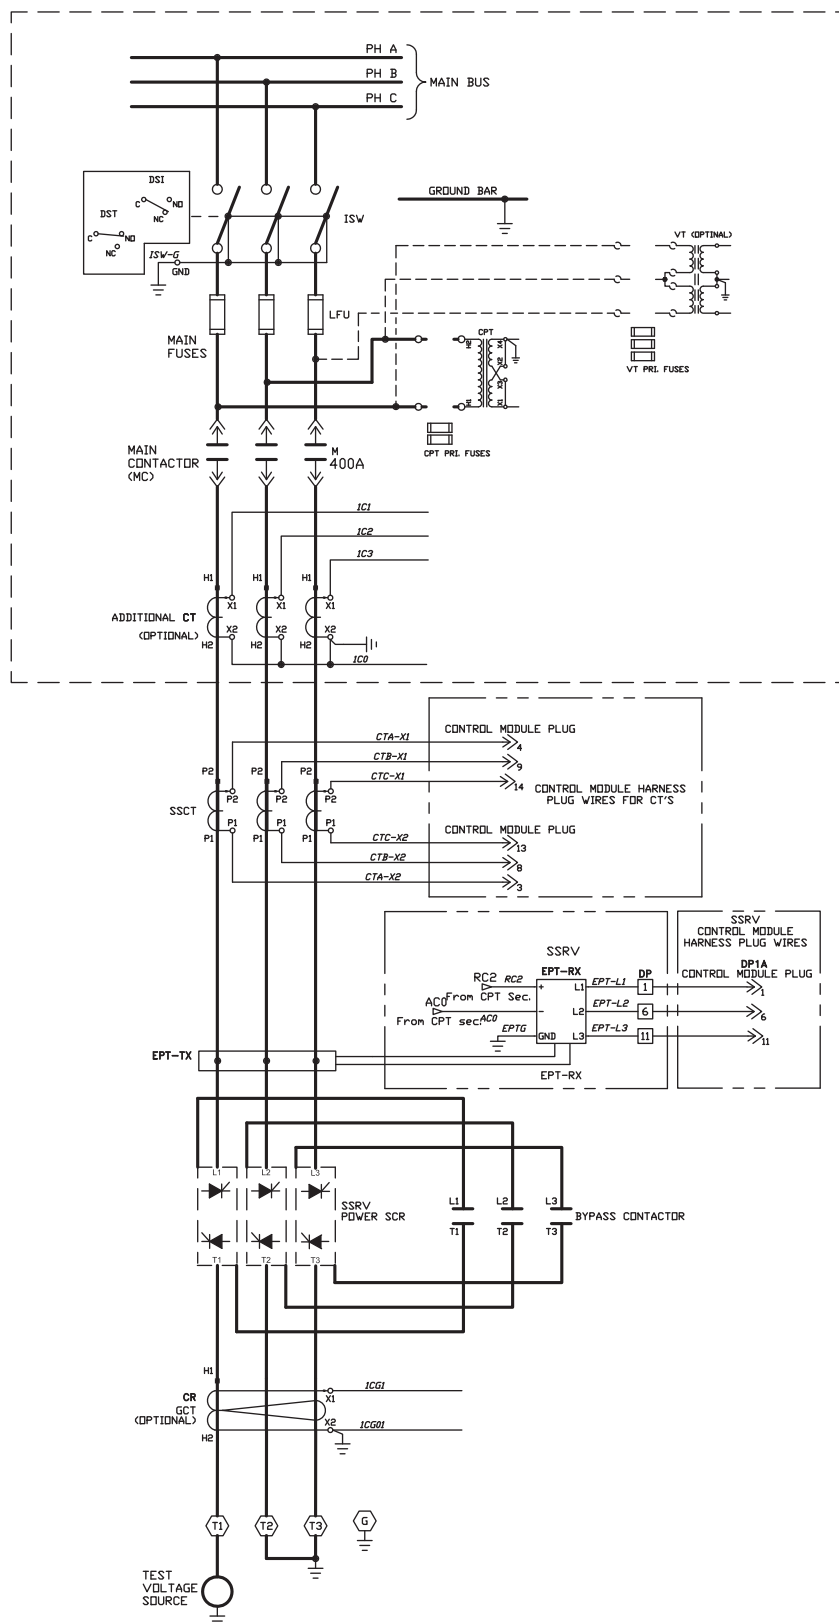

Figure 22: Low-voltage testing
14. Connect three-phase cable (equipped with switch) to the main load stabs. Refer to 480 Vac test source connection as noted in Figure 22 on page 77.